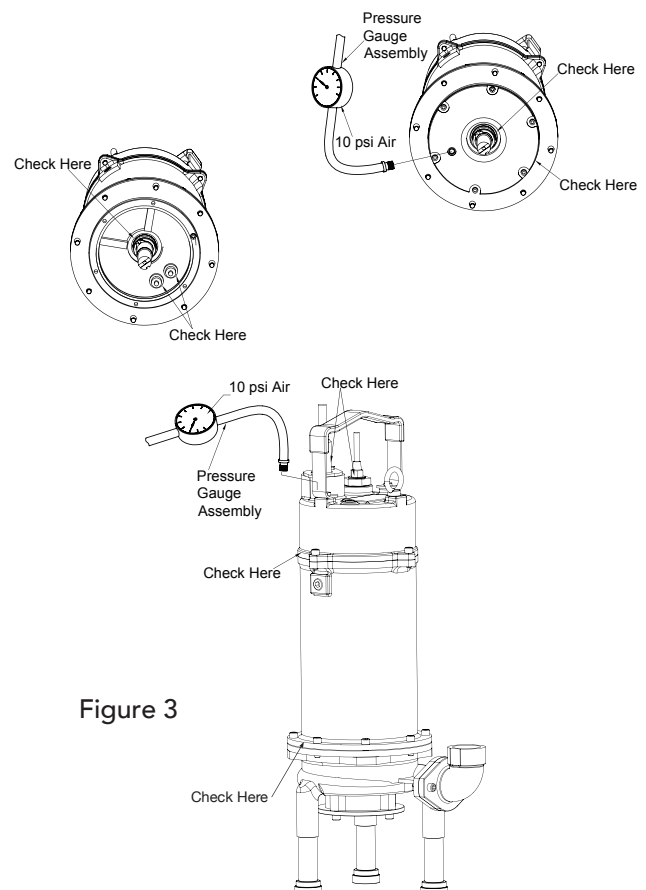

Figure 3
See Figure 3. Remove pipe plug (30) from cord cap (45). Apply pipe sealant to pressure gauge assembly and tighten into hole. Pressurize upper motor housing to 10 P.S.I. Use soap solution around the sealed area above the oil level and inspect for "air bubbles" around the joint between the cord cap (45) and motor housing (28). Also check around gland nut and power cable. If, after five minutes, the pressure is still holding constant, and no "bubbles" / oil seepage is observed, slowly bleed the pressure and remove the gauge assembly. If no leak has been found, continue to the Motor Housing Test.
If oil has been drained, fill to normal level before performing pressure test (See Figure 3). Remove pipe plug (30) from motor housing (28).